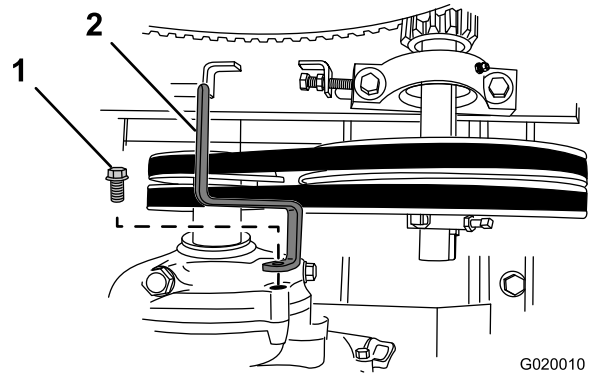

Figure 57
3. Remove the bolt that secures the belt guide to the engine, and remove the belt guide (Figure 57).
7. Loosely secure the belt guide to the engine (Figure 57) with the bolt that was removed in step 3 of Removing the Belts (page 33).